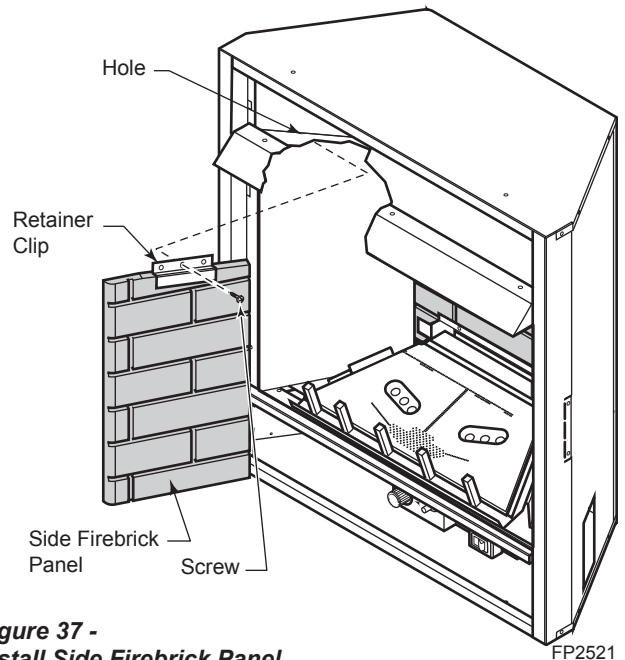

Figure 37 - Install Side Firebrick Panel
5. Place one of the side firebrick panels in cabinet. Line up the hole in the retainer clip with the hole inside the firebox. Using Phillips screwdriver, attach the retainer bracket to inside of firebox. *Figure 37*